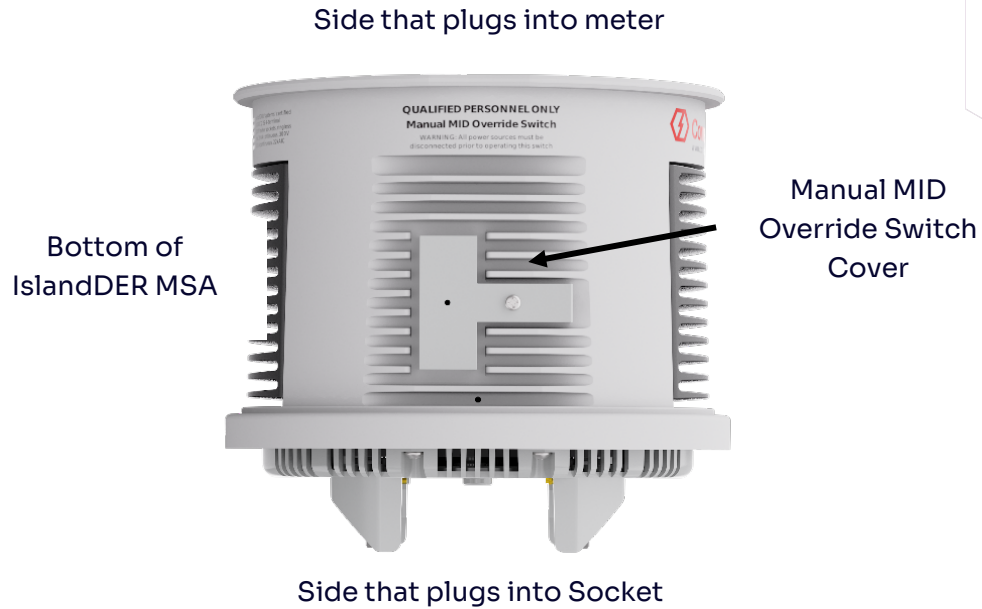

Figure 37. Manual MID Override Switch Cover – Bottom View of IslandDER MSA.
2. The Manual MID Override Switch cover is attached to the bottom of the IslandDER MSA Base, and serves as both the switch cover and actuation tool. It is the T-shaped device shown in Figure 37 below.